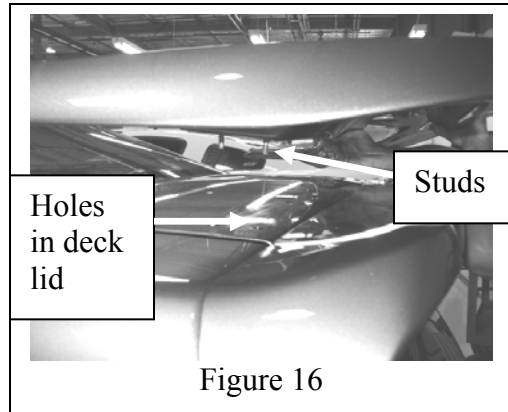

Figure 16
18. Before installing the wing, make sure the number of studs in the wing equals the number of holes drilled in the deck lid. Do a test fit to make sure all the holes line up. (Figure 16)
21. Line up the studs in the wing with the holes in the deck lid, and insert the wing studs into the deck lid. (Figure 16)